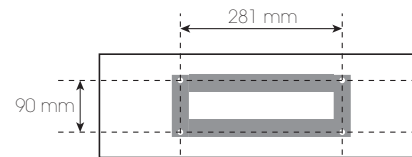

Fig. 1
- Mark on the mounting Brackets first two hole position which is 281mm apart. Mark the same hole positions 90mm below. Refer to (Fig. 1)